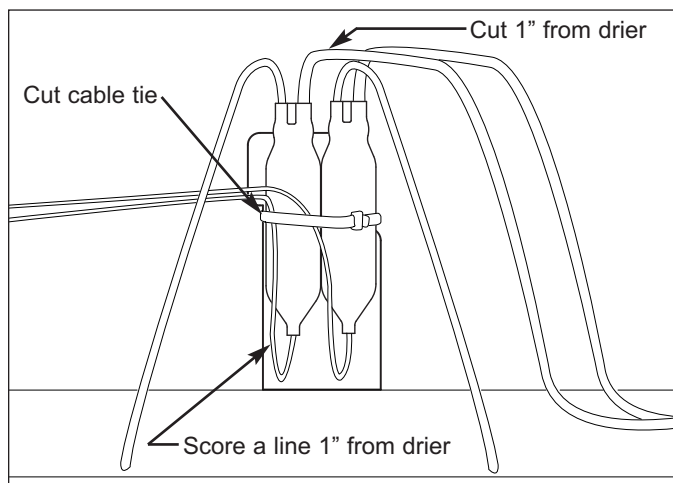

Figure 7-47. Filter-Drier Removal
1. Remove a filter-drier by cutting the cable tie which secures filter-driers to the bracket. (See Figure 7-47)